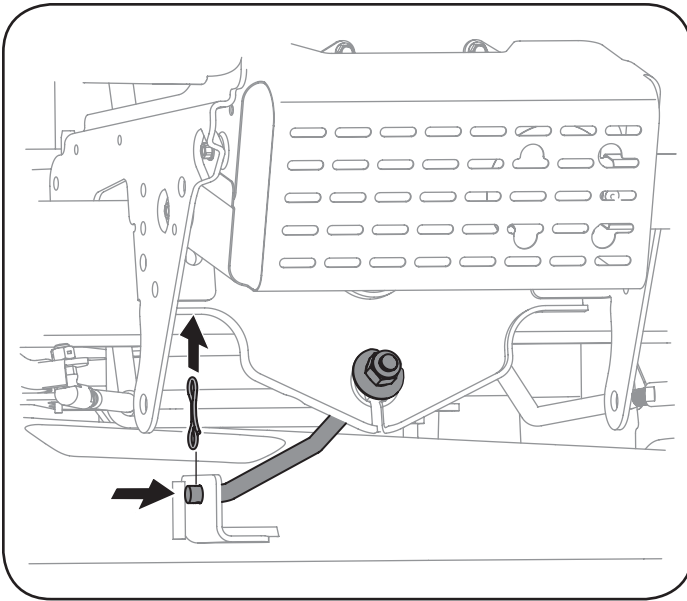

Figure 25
8. Remove the bow-tie cotter pin securing the deck stabilizer rod to the deck. Slide the deck lift rod from the mounting bracket on the deck as shown in Figure 25.